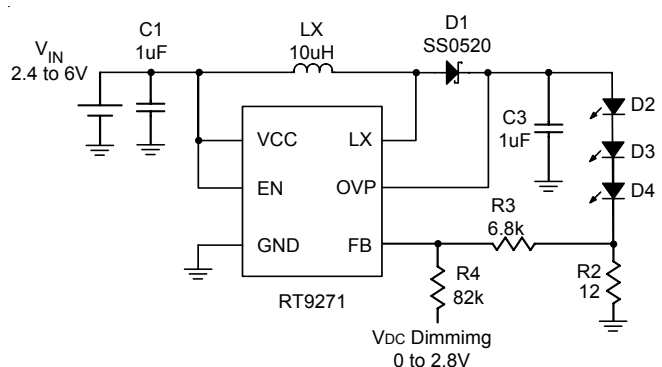
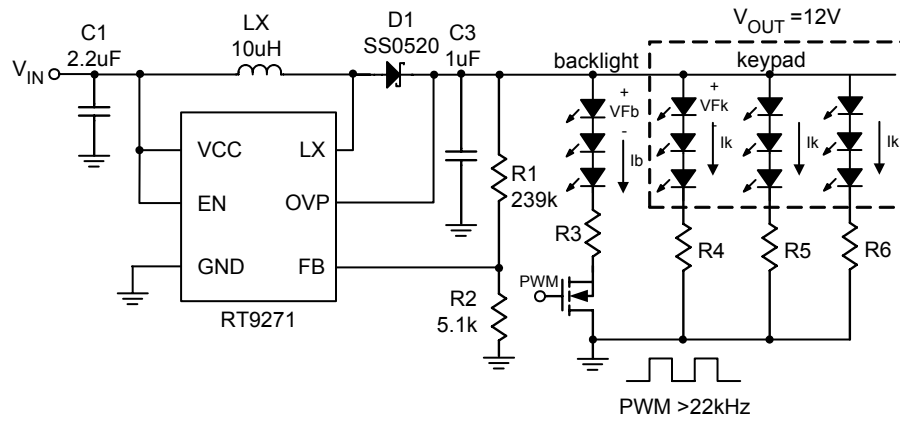

Figure 5. Dimming Control Using a DC Voltage
Figure 10. Constant output voltage for backlight and keypad
Using a variable DC voltage to adjust the brightness is a popular method in some applications. The dimming control using a DC voltage circuit is shown in Figure 5. According to the Superposition Theorem, as the DC voltage increases, the voltage contributed to  $V_{FB}$  increases and the voltage drop on R2 decreases, i.e. the LED current decreases. For example, if the  $V_{DC}$  range is from 0V to 2.8V, the selection of resistors in Figure 5 sets dimming control of LED current from 20mA to 0mA.
Figure 10 is another application of RT9271 for backlight and keypad. Setting the divider-resistors (R1 & R2) is to get a constant output voltage that depends on the forward voltage and the numbers of series-LEDs. It can turn on backlight of main panel and keypad at the same time. Applying different duty cycle of PWM signal above 22kHz to the backlight's switch can also control the brightness of main panel's backlight. The keypad's backlight will keep the same brightness during the dimming control of main panel. Otherwise the brightness of keypad's s backlight can also change during the dimming control of main panel by using the application circuit as figure 5. The following formula (4)(5) can determine the resistors of Figure 10.